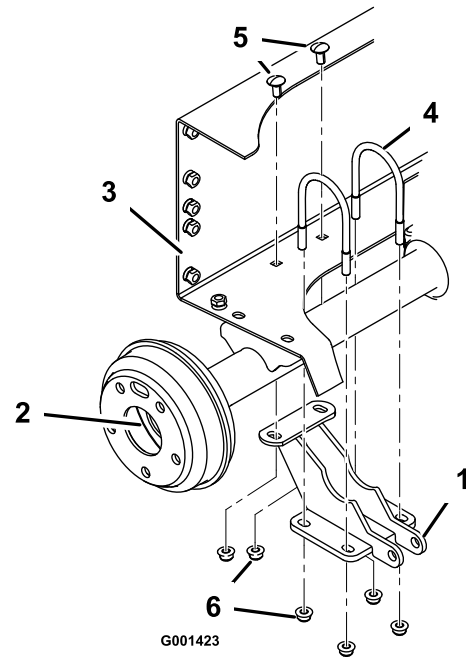

Figure 5
(3/8 inch) while aligning the mounting holes with the holes in the battery tray (Figure 5).
5. Secure the lift cylinder support to the rear frame with 2 carriage bolts (3/8 x 3/4 inch) and 2 flange nuts (3/8 inch). Tighten the 4 flange nuts on the U-bolts equally to make sure the bracket is aligned to the axle. Tighten the two nuts securing the rear of the bracket to the rear frame (Figure 5).